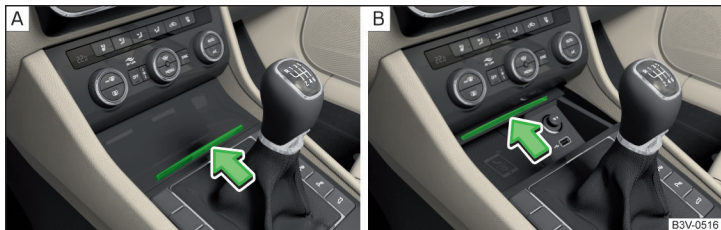

Fig. 106 Storage compartment: Open/close
- » To **open**, press the ridge in the direction of arrow » Fig. 106 - **A**.
- » To **close**, press the ridge in the direction of arrow » Fig. 106 - **B**. The lid closes automatically.